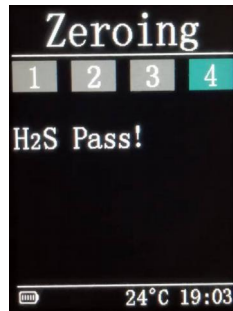

fig 24
- iv. After the calibration is completed, a prompt will appear, as shown in Figure 24.